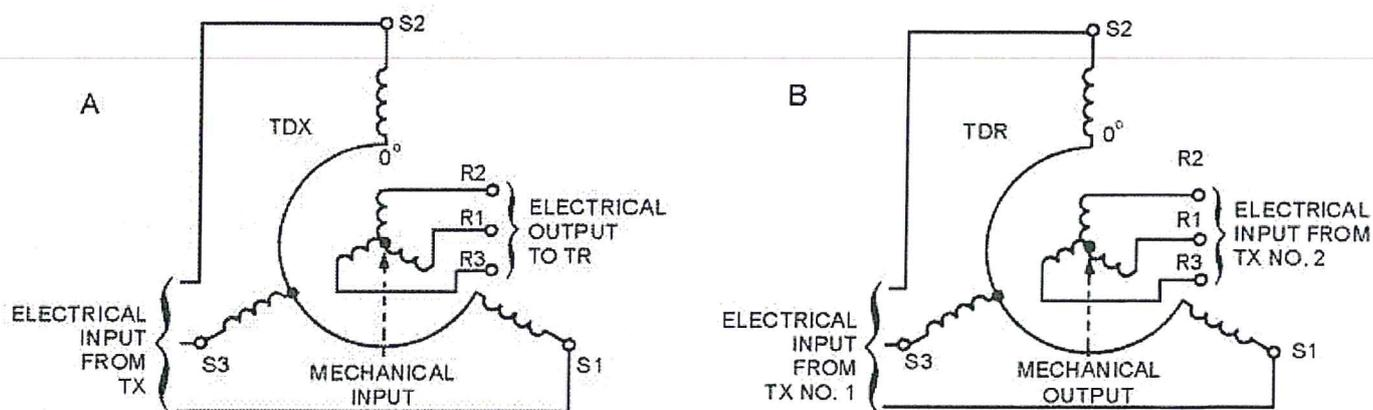

Figure 3-13. The Torque Differential Transmitter receives two inputs and provides one output.
*Figure 3-13 (A)* depicts a torque differential transmitter. Here the magnetic field created by the currents in the stator will position the rotor shaft of the TDX to correspond to the magnetic field of the transmitter providing the input signal. However, if the rotor position changes in response to a mechanical input, the voltage induced in the windings will also change. Therefore, the output voltage varies as a result of either a change in the input stator voltage, or a change in the mechanical input to the rotor.
*Figure 3-13 (B)* depicts a Torque Differential Receiver (TDR). A TDR is similar to a TDX, except that a TDR accepts two electrical inputs, one on the stator and one on the rotor, and produces one mechanical angular output, which produces torque on the TDR shaft. Both